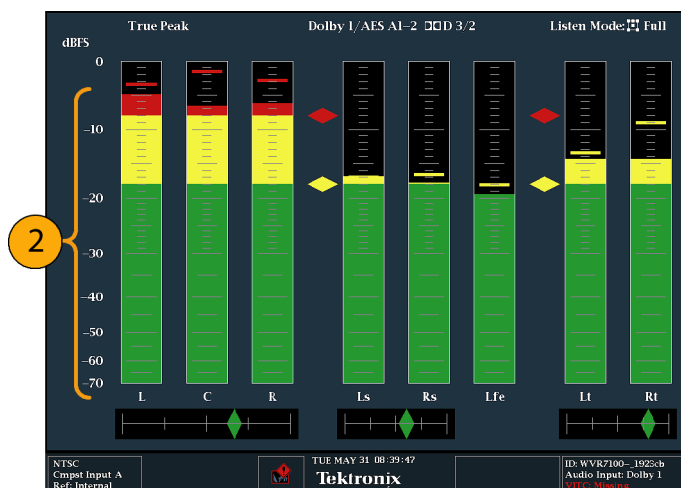

Figure 51: Audio levels
2. Check the level meter bars for current audio levels, which are displayed according to the selected meter ballistics. Each bar displays three colors. (See Figure 51.)